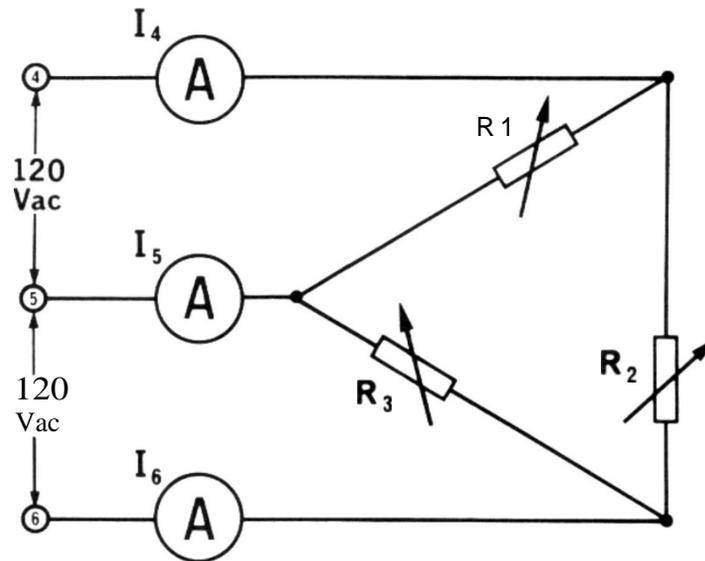

Figure 02-4
- 6) Reconnect the AC ammeters to read the line currents as depicted in Figure 02-4.